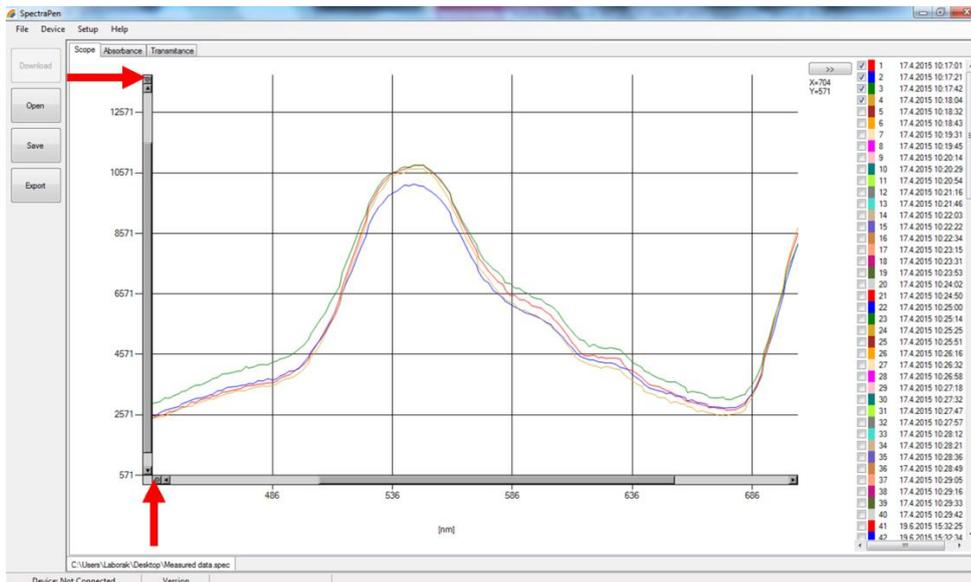

Fig. 30 Zoom function.
9. To **zoom in on the data displayed in the graph** select an area of the displayed graph. To reverse these steps and return to original display use minus icon in the corners of the zoom area marked with green rectangles in Fig. 30.